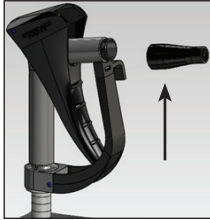

Figure 1
1. Remove the nozzle spout (Figure 1).